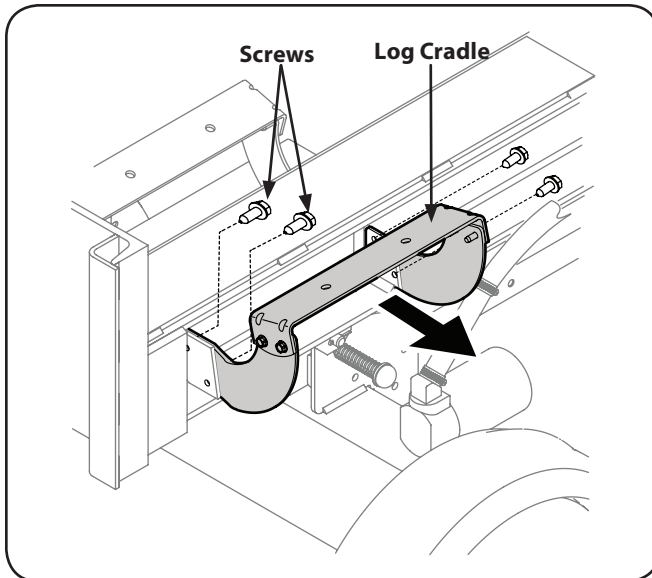

Figure 3-11
3. Place a log cradle assembly against the lower outside surface of the beam flange and secure using the four self-tapping screws previously removed. See Fig. 3-11.